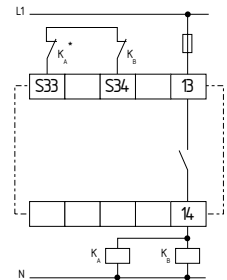

Fig. 12
**Dual-channel control with feedback circuit (Fig. 12)**